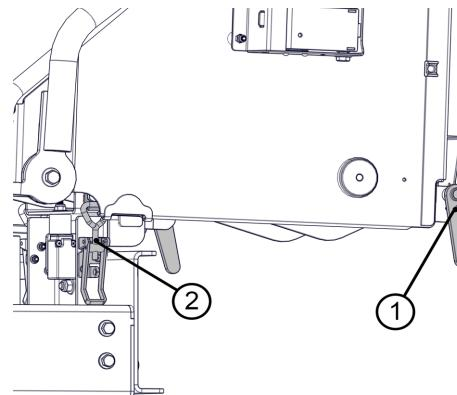

Figure 23 - Tray and Funnel Removal
3. Remove the locking pins from each side, withdraw both hinges and remove the tray from the feed funnel (Figure 23, Item 1).
5. Locate the two securing catches underneath the feed funnel and release them to detach the funnel from the chassis (Figure 23, Item 2).